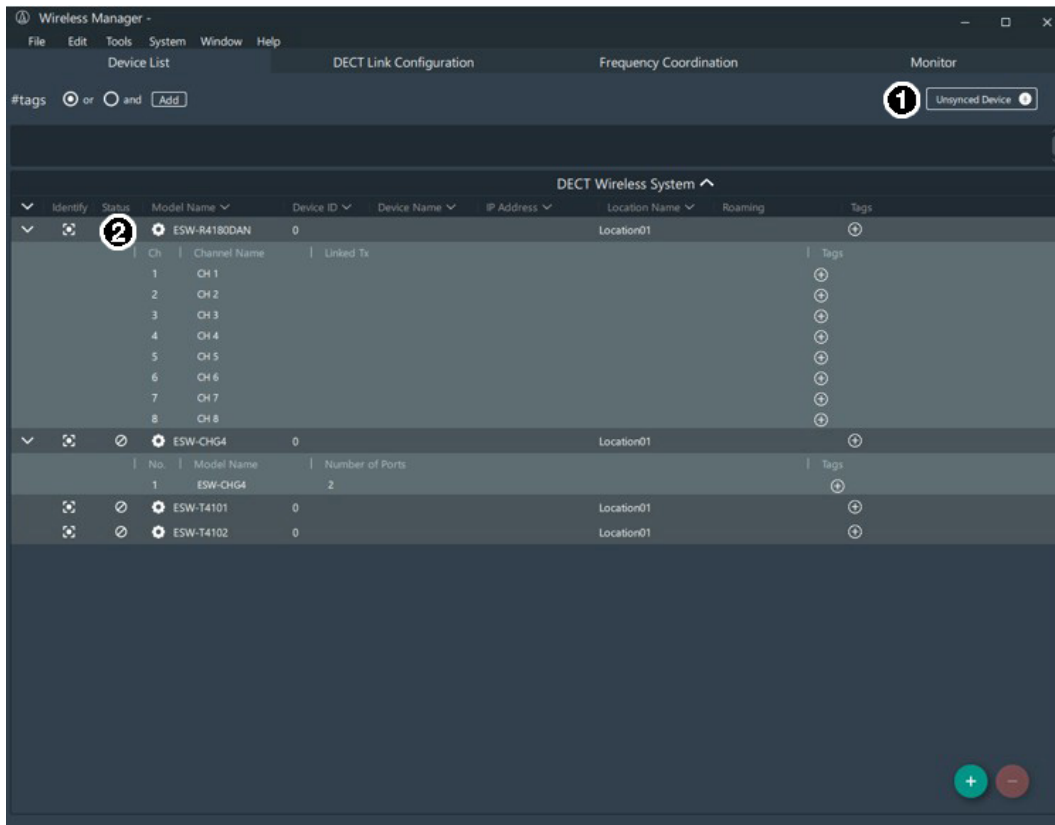
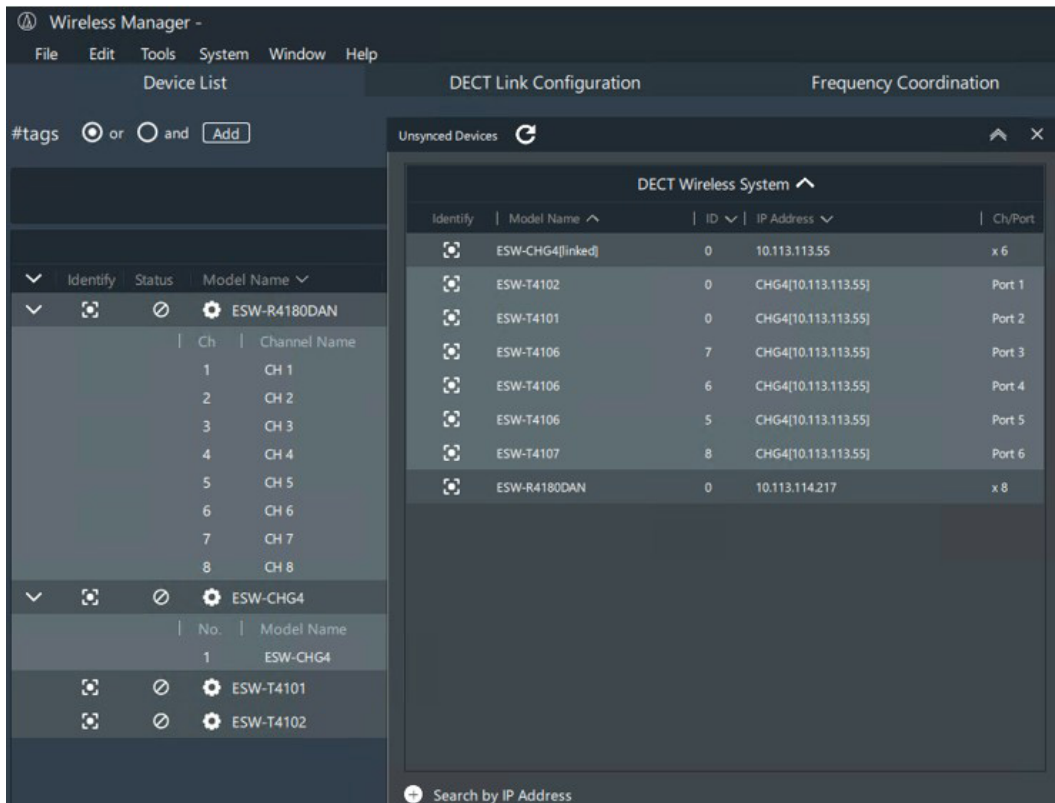

Figure 14. Wireless Manager Screen with the Open WMPROJ File
Figure 15. Wireless Manager Unsynced Devices Window
7. Open the provided configuration file — WMPROJ file (see figure 14 on page 7).
8. Click the **Unsynced Devices** button (see figure 14, 1). The **Unsynced Devices** window opens (see figure 15).
11. Click the gear icon (see figure 15 on page 7) for the receiver to set the network settings and note the IP addresses. The DeviceSetting window opens.